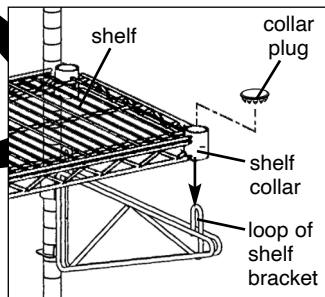

figure 6
- Lay each shelf\* on top of wall brackets, and cover shelf collar openings with collar plugs (see figure 6).